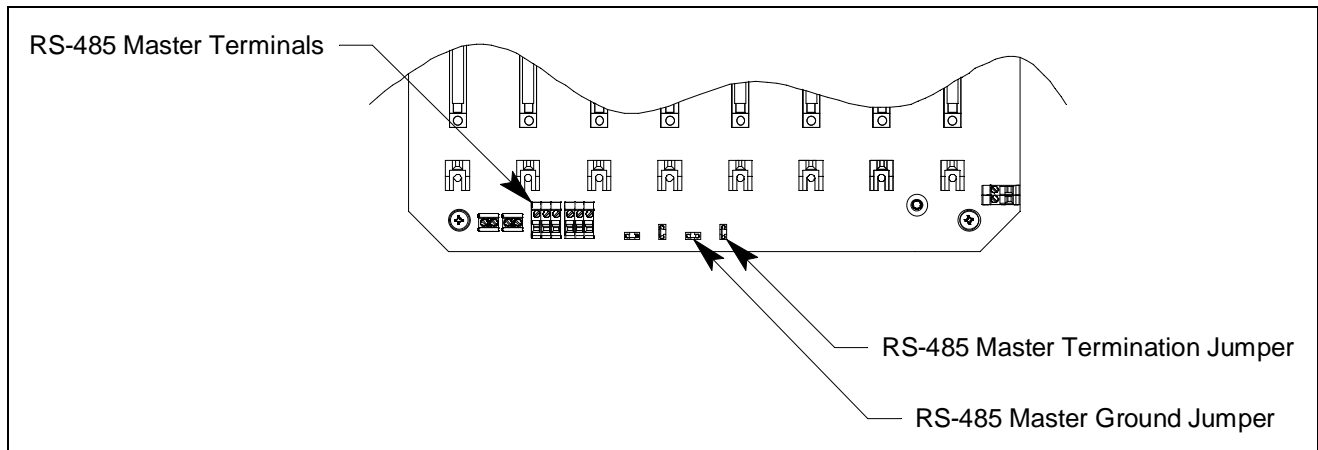
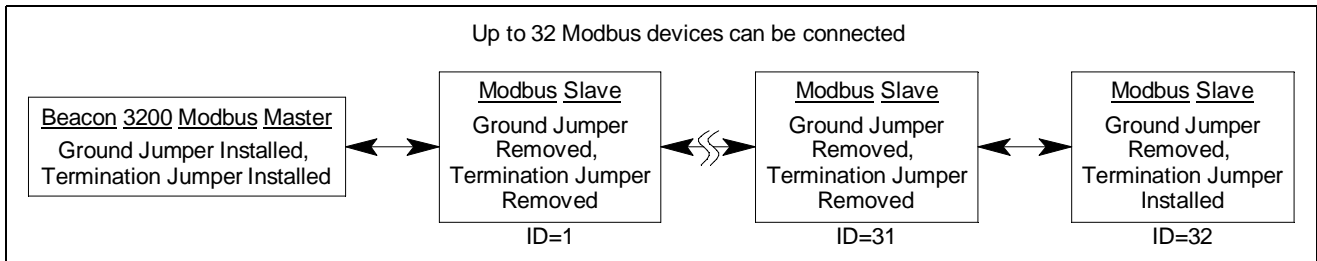

Figure 14: Modbus Master Terminal and Jumper Locations
Figure 17: Jumper Configuration
2. Configure the ground and termination jumpers (locations shown in Figure 14) as shown in Figure 17.